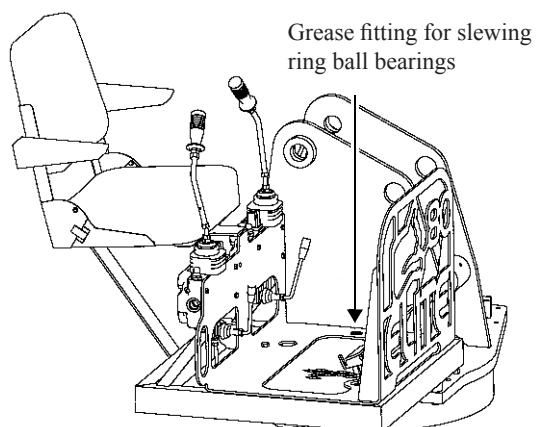

Figure 22 - Location of grease fitting for slewing ring ball bearings
- Rotate the booms slowly while you pump the grease gun **6 times** during the rotation into the grease fitting on the floor of the loader's head (see *Figure 22 on page 69*). Pump the grease evenly (1 pump every 60°).